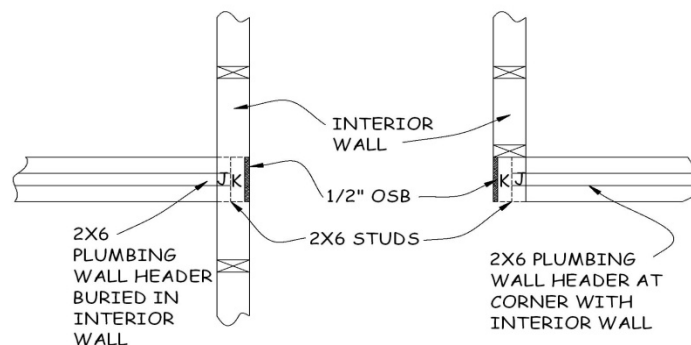

Figure 3-9. Plumbing Wall Configuration.
- b. A 2x6 sliding closet wall intersecting a 2x4 wall at 90°: The intersection of the closet wall framing with the 2x4 interior wall requires a special header configuration (see Figure 3-9). If the two walls create an “L”, butt the side of the 2x6 wall against the end of the 2x4 wall (this makes the 2x6 wall the “long” or overlapping wall). If they create a “T” (where the 2x6 wall butts up to the 2x4 wall), extend the closet header into the 2x4 wall. In both cases, lay out the Jack stud flush with the closet side of the 2x4 wall. Adjoining that will be the King stud and $\frac{1}{2}$ ” of OSB, creating a 3 $\frac{1}{2}$ ”-wide block equal in width to the 2x4 interior wall.